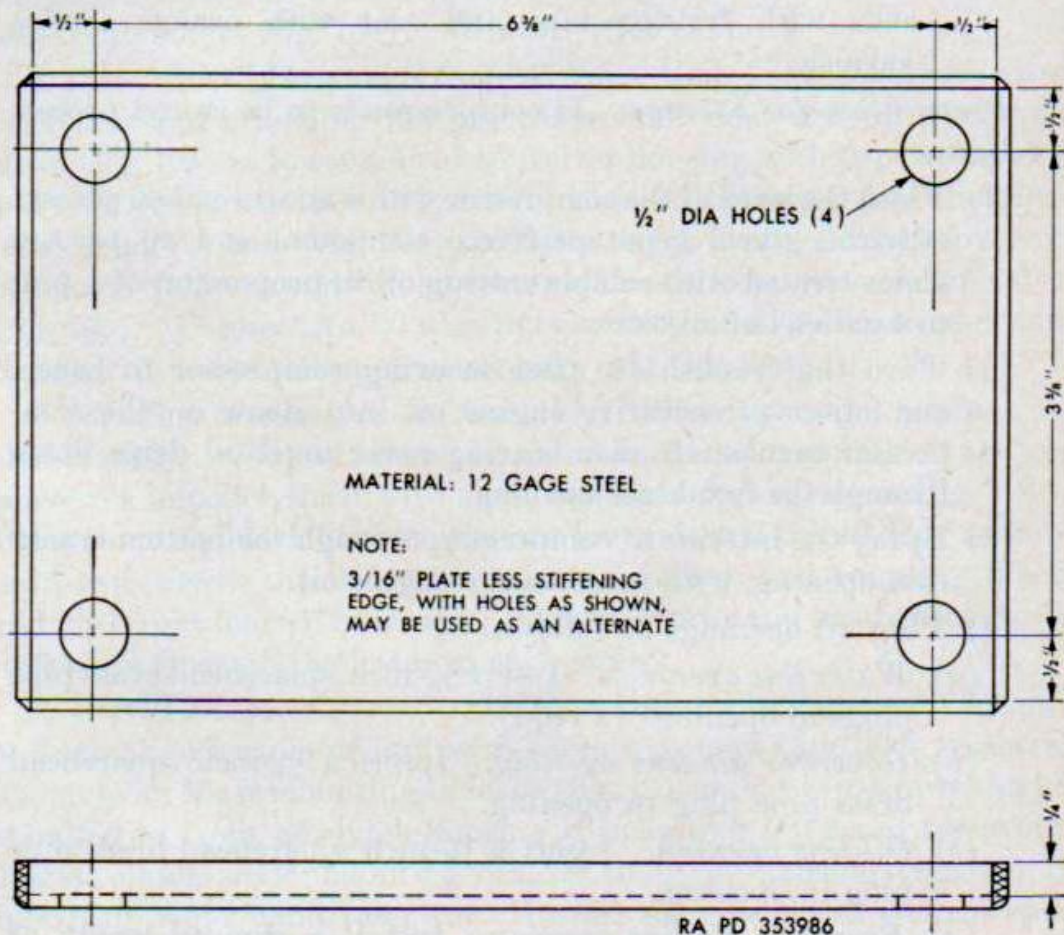

Figure 124. Compressor mounting bracket cover plate.
- (c) *Install compressor mounting bracket cover plate.* Fabricate a cover plate as shown in figure 124. Install the cover